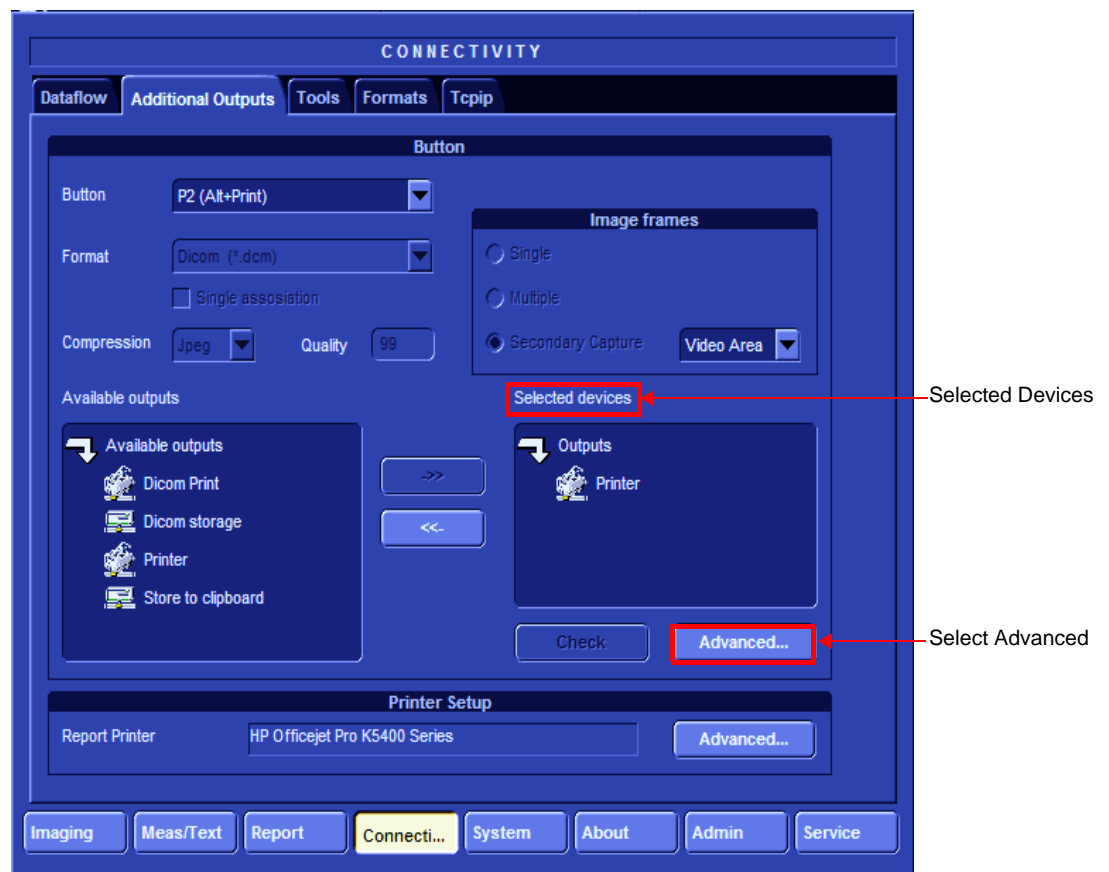

Figure 3-14 Advanced option at Windows level
- 1.) Click the **Tcpip** tab on the Connectivity screen (see Figure 3-14 on page 3-23).